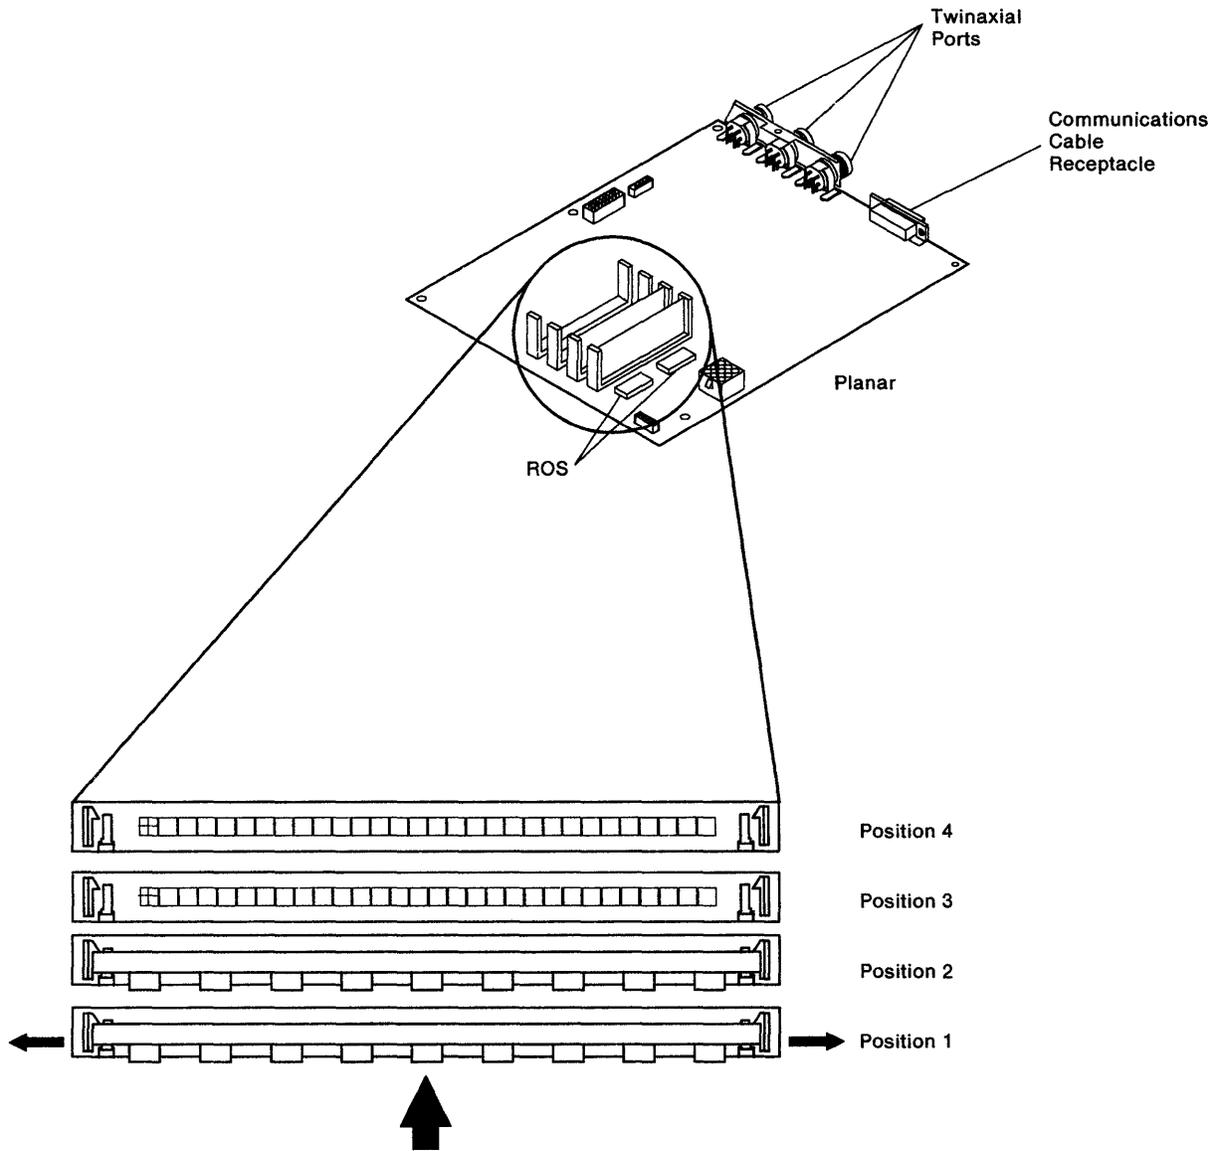

Figure 3-27. DRAM Module Locations
3. Use Figure 3-27 to remove one or more DRAM modules.